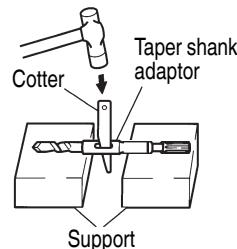

Fig. 11
- (2) Turn the power on and drill a base hole.
- (3) After cleaning out dust with a syringe, attach the plug to the anchor tip and drive in the anchor with a manual hammer.
- (4) To remove the drill bit with taper shank, insert a cotter into the slot of the taper shank adaptor, place supports under the both sides of taper shank adapter and tap the cotter with a manual hammer. (Fig. 11)